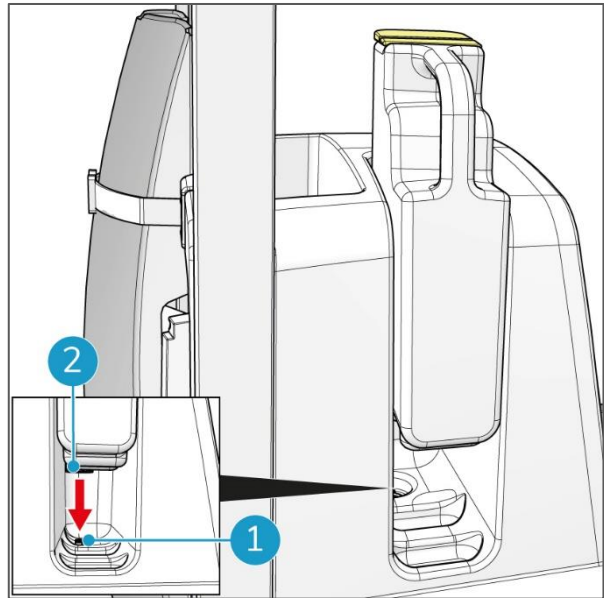

Figure 63
11. Press the tank downward to make sure that the valve (Figure 63, pos 2) is locked onto the detergent tank connector (Figure 63, pos 1).